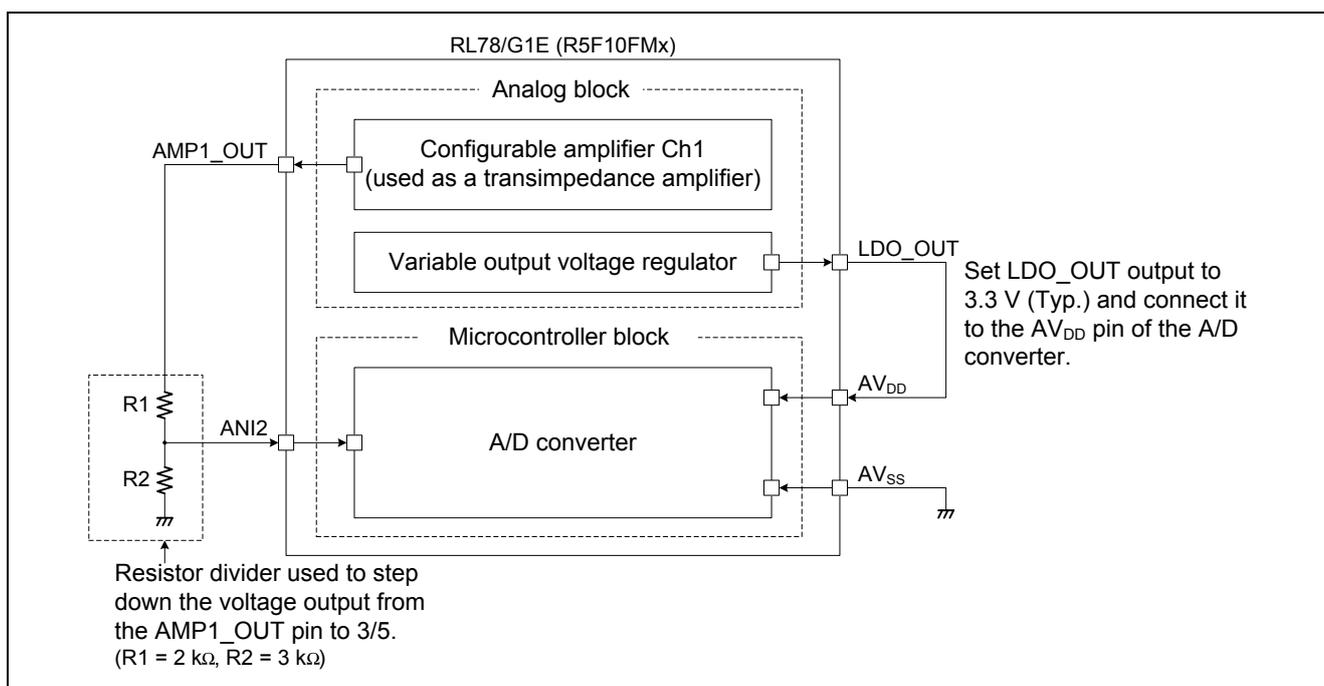

Figure 5.5 Connection Between Configurable Amplifier Ch1 (Used As a Transimpedance Amplifier) and A/D Converter
Figure 5.5 shows the connection between configurable amplifier Ch1 (used as a transimpedance amplifier) and the A/D converter incorporated in the RL78/G1E (R5F10FMx).
Because the analog voltage output from the AMP1_OUT pin is divided by using the resistor divider and then input to the ANI2 pin, the AMP1_OUT pin voltage (V) is expressed as shown in the formula below (see **Figure 5.5**):